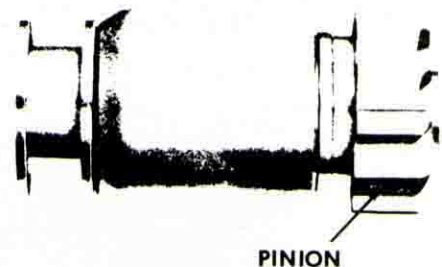

Figure 22—Positork drive.
6. Adjust clearance by removing plug and turning shaft nut (Figs. 20 and 21 only). Although typical specifications are shown, always refer to the appropriate Delco-Remy Service Bulletin for specifications applying to specific models. The clearance for the Positork drive (Fig. 22) is the same as that shown in Figure 20.